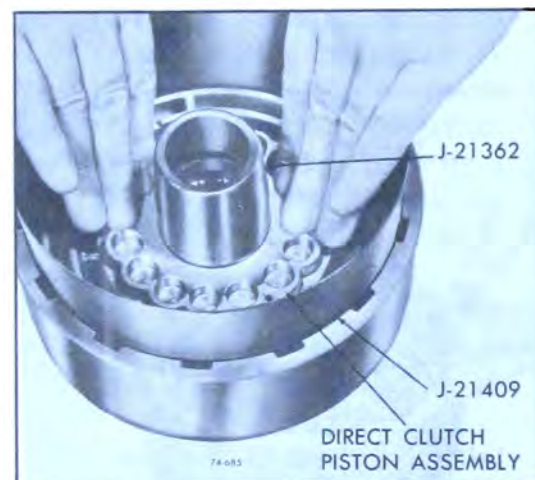

Figure 74-686
4. Place Seal Protectors, Tools J-21362 - Inner, J-21409 - Outer, over hub and clutch housing and install clutch piston. See Figure 74-686.